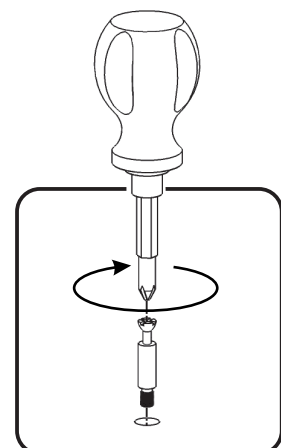

Figure 1
Insert Cam Lock Screws into pre-drilled holes in Top (A), Bottom (E), Plinths (F), Side Panels (G) and (H), then tighten. (See Figure 1)